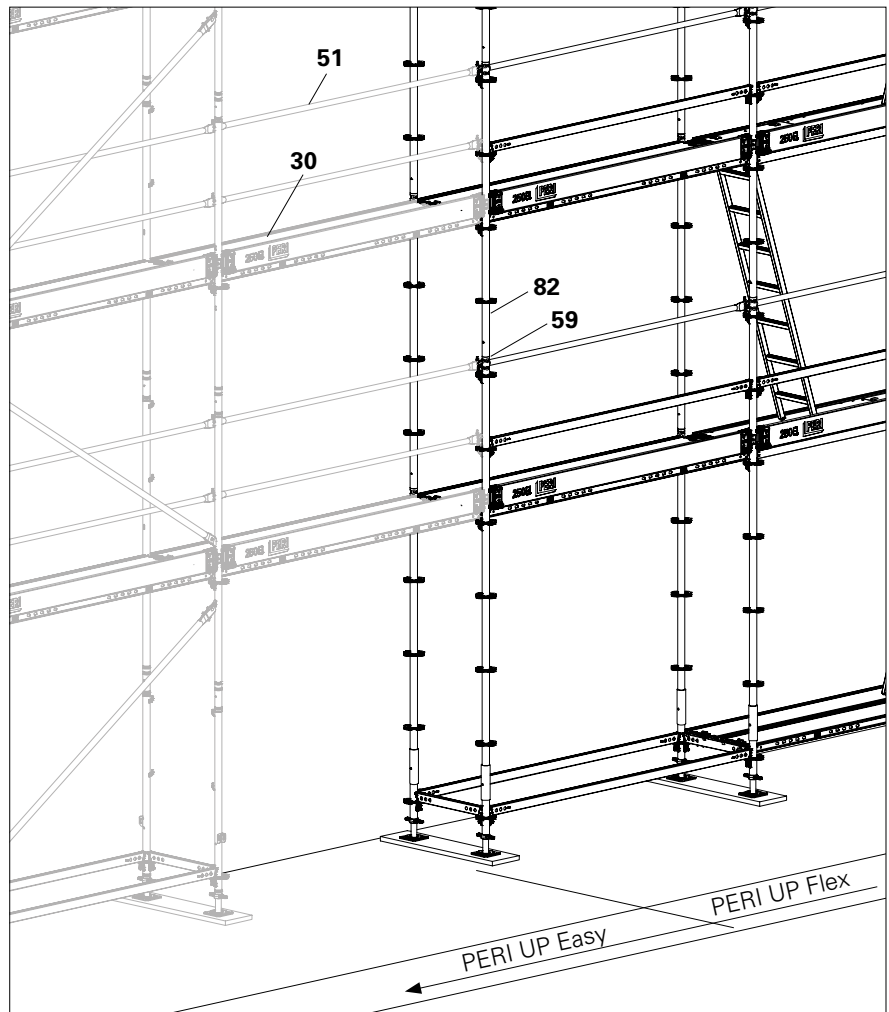

Fig. C1.02
The Flex area is erected as stand-alone scaffold according to the Instructions for Assembly and Use for PERI UP Flex. (Fig. C1.02)
1. Insert Guardrail Holder EPW (59) into the rosettes of the Standards UVR-2 (82). Guardrail hooks must point inwards towards the deck. Secure the wedges.
4. Fit Toe Board UPF. (Fig. C1.02 + C1.03)